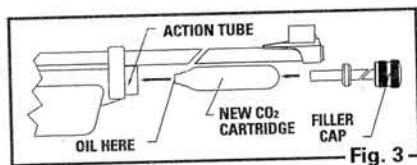

Fig. 3
- Insert the new CO2 cartridge into the air rifle with the small neck of the CO2 cartridge into the action tube first. (Fig. 3)
- Your air rifle will work best if you oil it every 250 shots. Put a drop of Crosman 0241 Lubricating Oil directly on the tip of a CO2 cartridge before inserting and on the o-ring located on the bolt. (See Fig. 3 & 4) A light coat of Crosman 0241 Lubricating Oil on all exposed metal parts helps prevent rust. DO NOT use a petroleum distillate based oil or solvent and do not over-oil as this can cause damage to your air rifle.